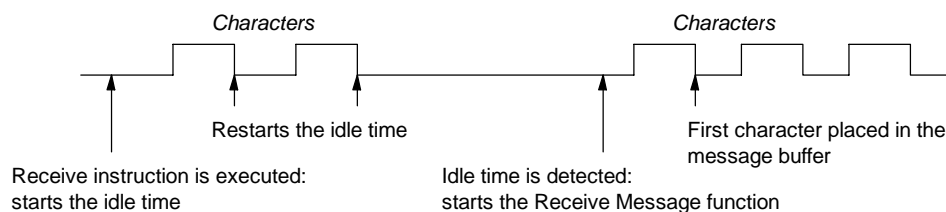

Figure 6-11 Using Idle Time Detection to Start the Receive Instruction
1. *Idle line detection:* The idle line condition is defined as a quiet or idle time on the transmission line. A receive is started when the communications line has been quiet or idle for the number of milliseconds specified in SMW90 or SMW190. When the Receive instruction in your program is executed, the receive message function initiates a search for an idle line condition. If any characters are received before the idle line time expires, the receive message function ignores those characters and restarts the idle line timer with the time from SMW90 or SMW190. See Figure 6-11. After the idle line time expires, the receive message function stores all subsequent characters received in the message buffer.